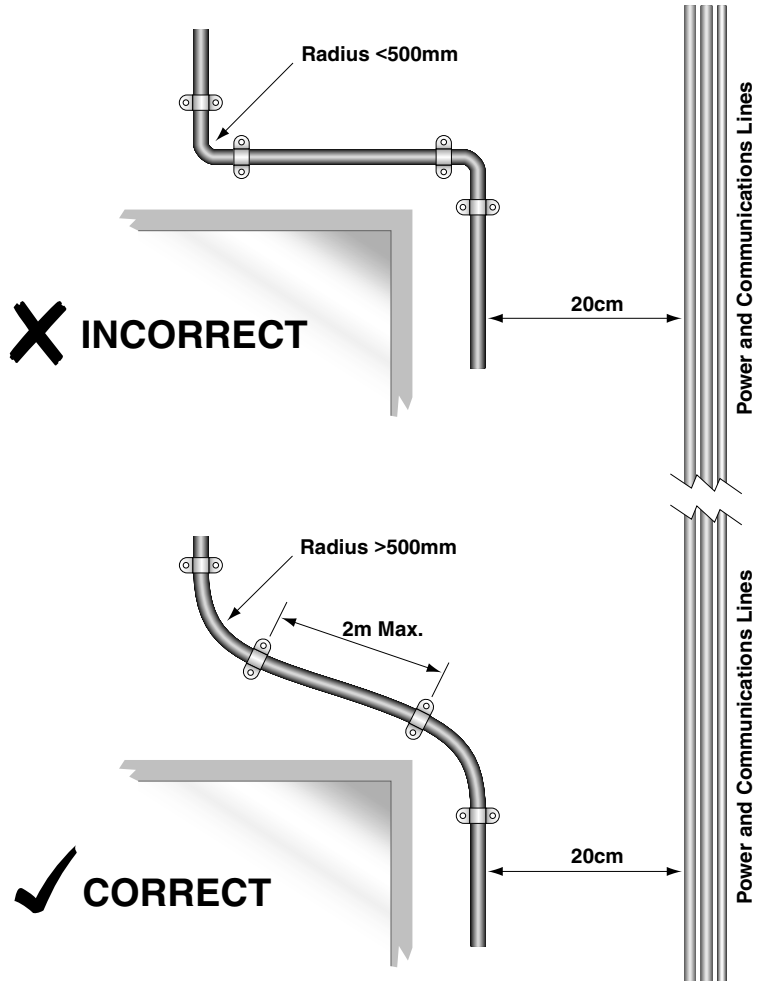

Figure 11.
- Parallel routing with other services – Minimum separation = 20cm. See Figure 11 on page 20.